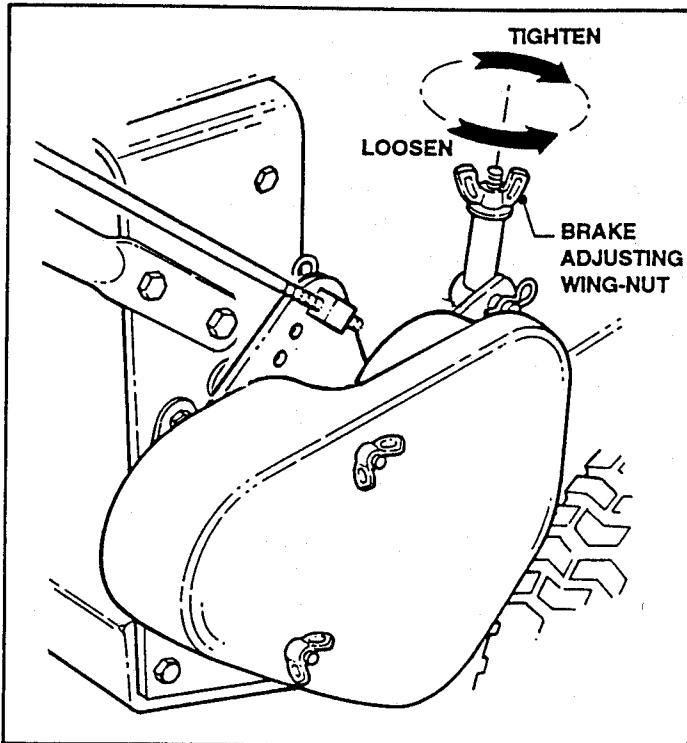

FIGURE 24
3. **TURN** brake-adjusting wingnut clockwise slightly until desired turning response is achieved when pulling Traction Levers to their brake position. (Clockwise turning tightens brake band, counterclockwise loosens.) See Figure 24.